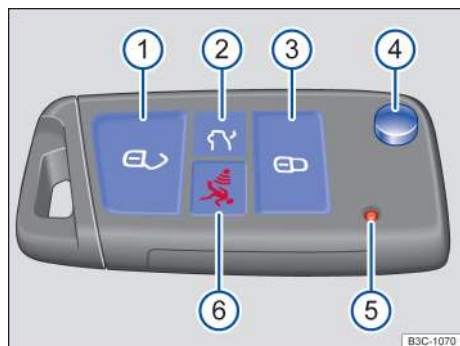

Fig. 48 Remote control vehicle key with panic button.
Key to fig. 48:
- *To fold the key bit out:* Press button → fig. 48 ④ to release the key bit and fold it out.
- *To fold the key bit in:* Press the button ④ and push the key bit in until it clicks.
Press the panic button → fig. 48 ⑥ only in emergencies! After pushing the panic button, the horn will sound and the turn signals will flash. Press the panic button again or press the ③ button on the remote control vehicle key to switch off the panic feature.